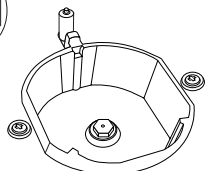

Figure-11
2. Please remove nozzle (Figure -11) from burner with special nozzle driver and install new nozzle (Figure -12)